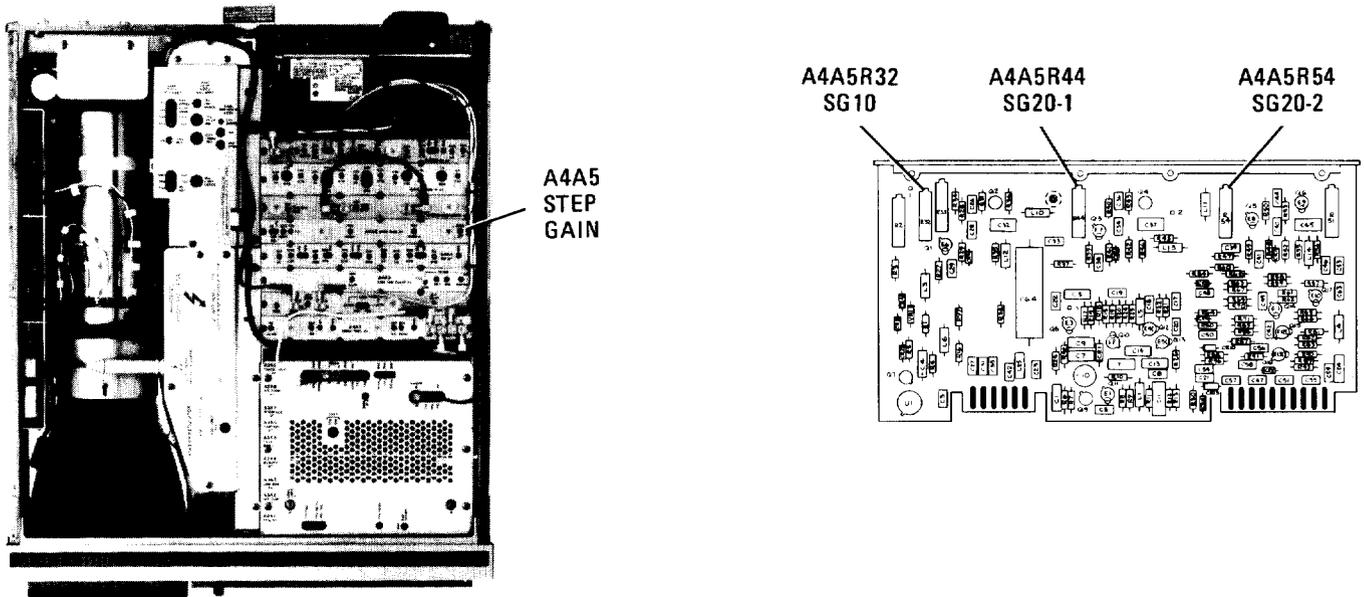

FIGURE 34. LOCATION OF 10-dB GAIN STEP ADJUSTMENTS
16. Adjust A4A5R32 SG10 for MKR Δ level of .00 dB (CRT MKR Δ annotation is now in upper right corner of CRT display). Refer to Figure 34 for location of adjustment.
19. Adjust A4A5R44 SG20-1 for MKR Δ level of .00 dB. Refer to Figure 34 for location of adjustment.
21. Adjust A4A5R54 SG20-2 for MKR Δ level of .00 dB. Refer to Figure 34 for location of adjustment.